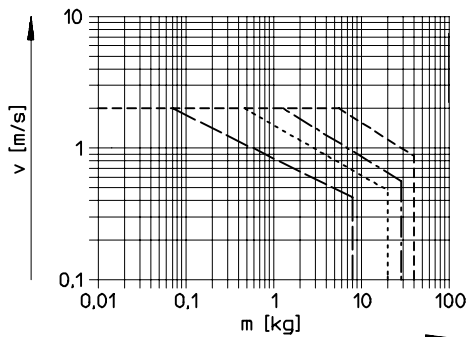
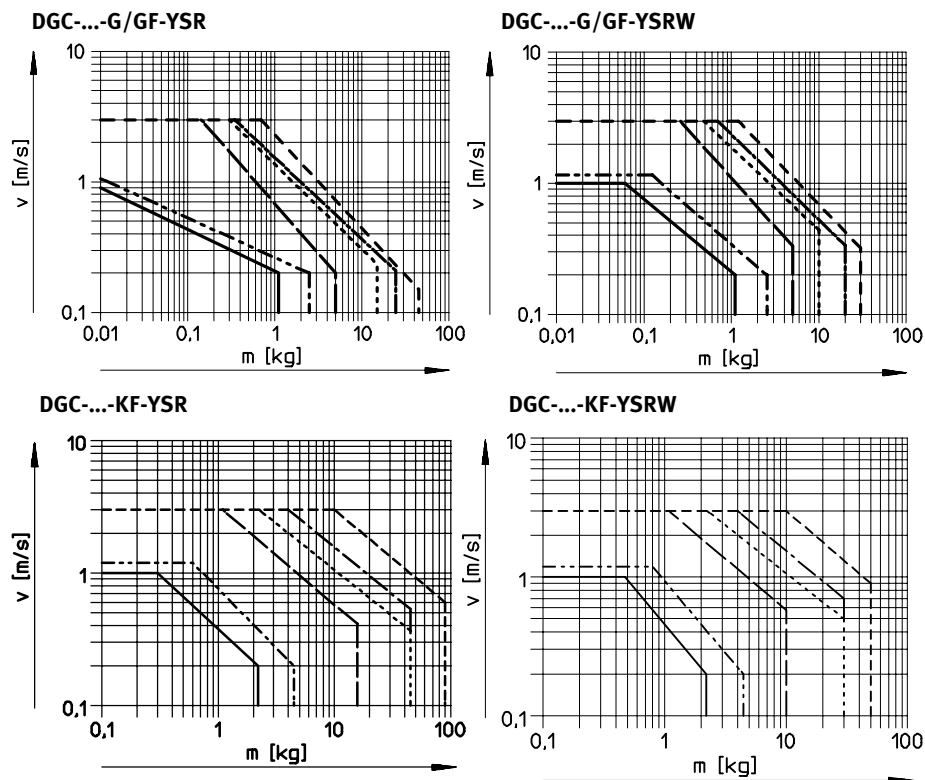

Fig. 24
Fig. 25
Without external cushioning devices the DGC-... will withstand maximum speeds and work loads as per Fig. 24 and Fig. 25.
- Without external cushioning devices the DGC-... may be damaged if the maximum values specified in Fig. 24 and Fig. 25 are exceeded. Even in the event of faults, the limit values must not be exceeded.